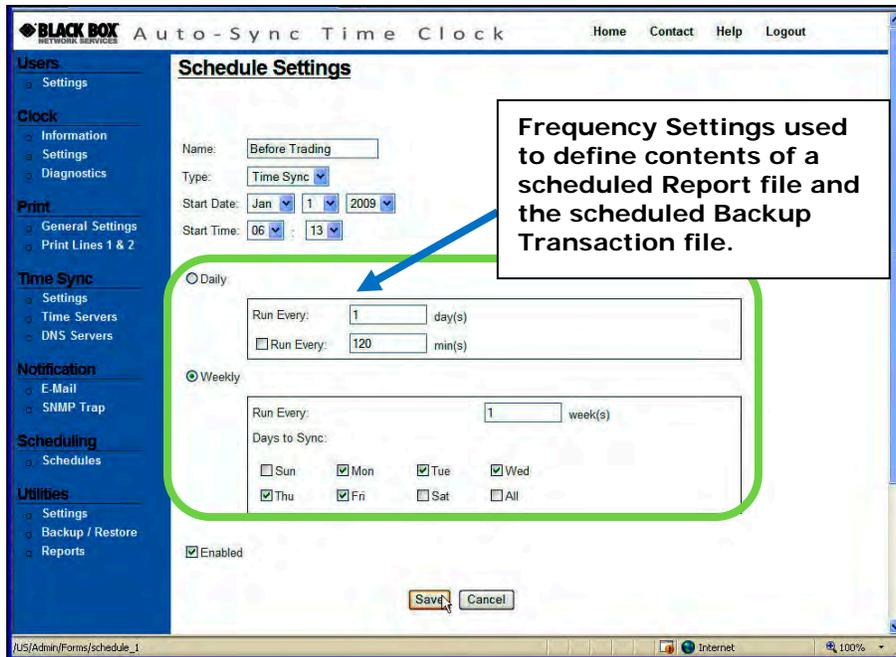

Figure 4-21. Schedule Settings.
2. Highlight the desired time sync schedule to modify and click on the **Edit** button to edit an existing schedule, or click on the **Add** button to create a new schedule and the **Schedule Settings** setup screen will appear (see *Figure 4-21*).